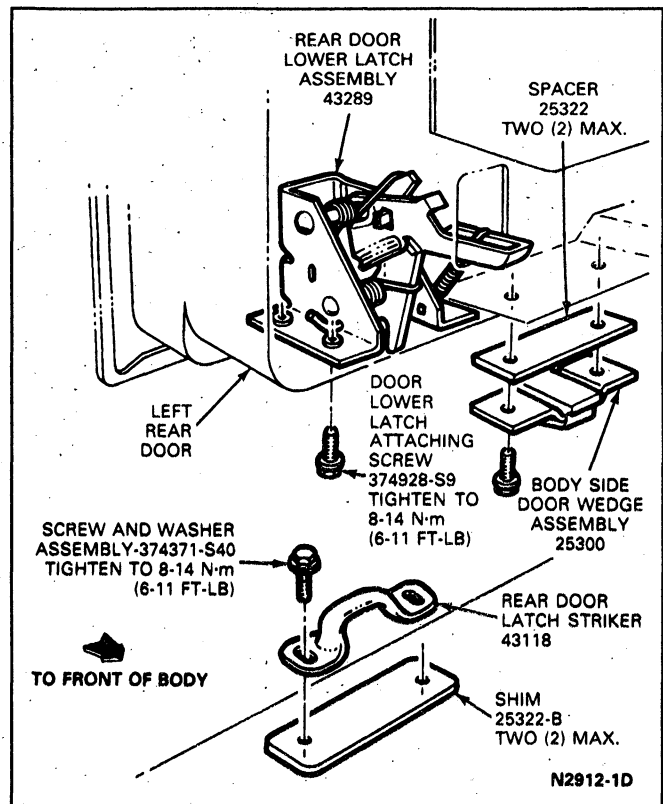

FIG. 9 Left Rear Door Latch—E-150—E-350
- Remove the four latch attaching screws and remove the latch from the door (Fig. 9).